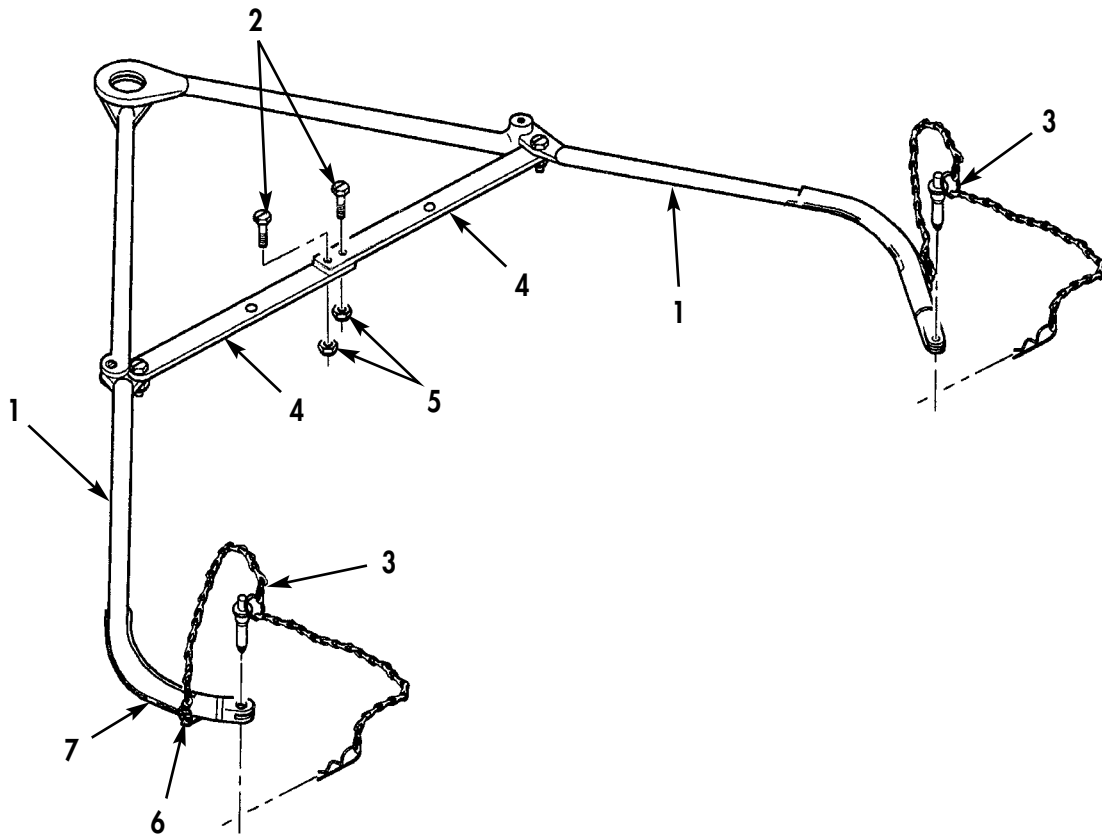

Figure 1. Towing and Lifting Yoke Clevis Pins.
1. Open and disconnect two chain hooks (Figure 1, Item 7) from eyes (Figure 1, Item 6) on two connecting legs (Figure 1, Item 1), and remove two clevis pin assemblies (Figure 1, Item 3).
2. Remove two locknuts (Figure 1, Item 5) and screws (Figure 1, Item 2) from two braces (Figure 1, Item 4). Discard locknuts (Figure 1, Item 5).